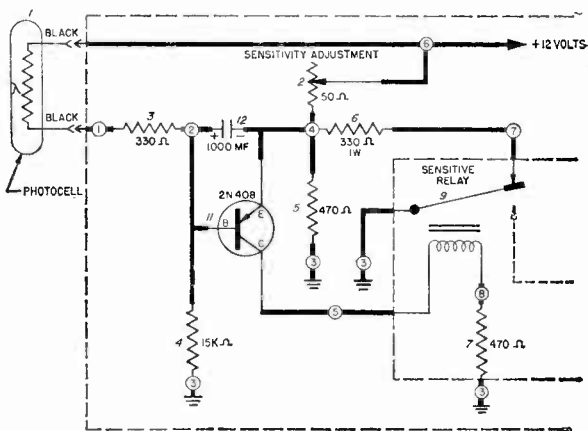

Fig. 4
AMPLIFIER CIRCUIT (See Fig. 4, page 18). Voltage for the base of the transistor (11) is supplied by the series network of the photocell circuit. Voltage for the emitter is supplied by the series-parallel network of the sensitivity adjustment (2), resistor (5) and resistor (6) to ground. The collector is connected in series to ground with the coil of the sensitive relay (9) and resistor (7).
MISCELLANEOUS: (See Fig. 4)